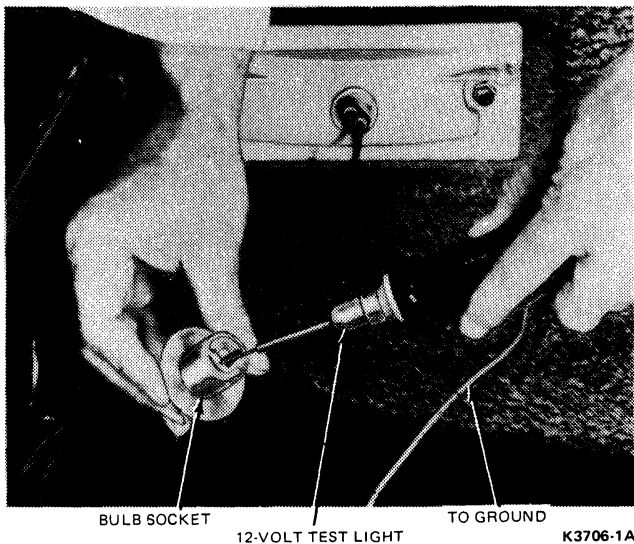

FIG. 6 Bulb Sockets Power Test
3. Connect 12-volt test light to a good ground (Fig. 6).
4. Contact probe of test light to the wire connection at the bulb socket (Fig. 6) to check for continuity to the following turn signal lights: